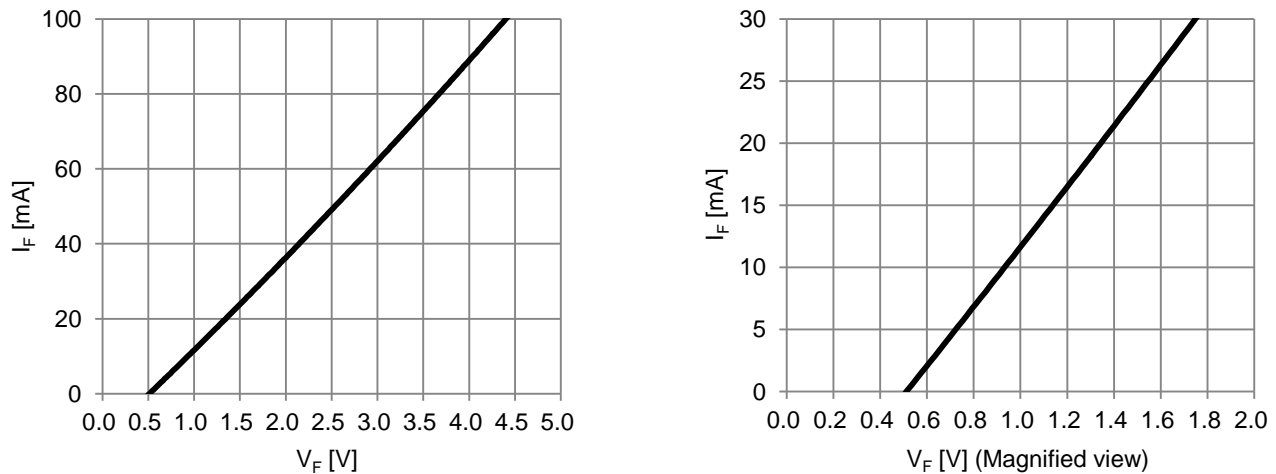

Figure 2. Built-in Bootstrap Diode  $V_F$ - $I_F$  Characteristic ( $T_C=25^\circ C$ )
- The characteristics of bootstrap diodes are shown in Figure 2.